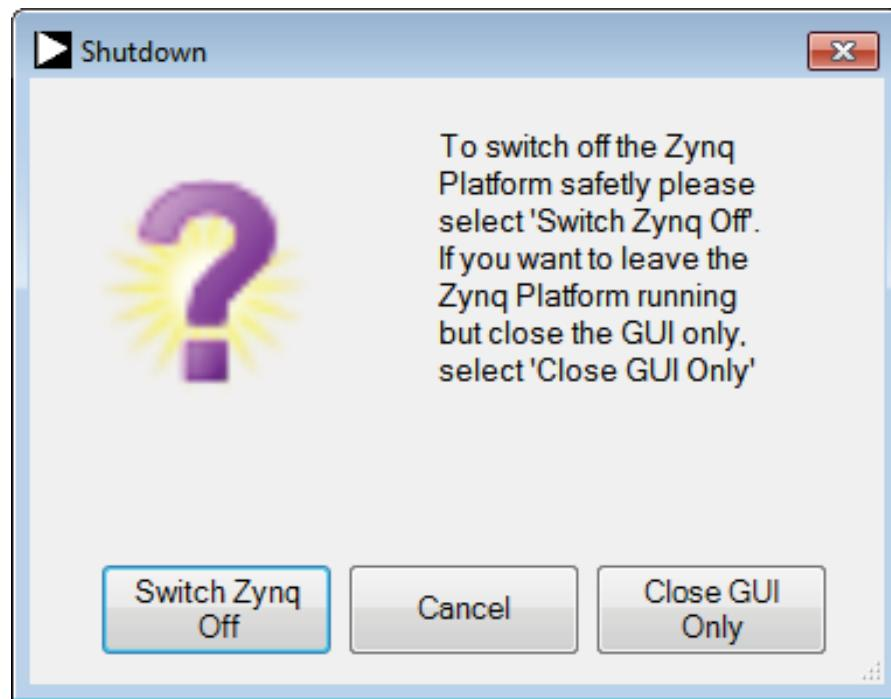

Figure 51. **AD9375 SCES Shutdown Window**
- **Exit** opens the **Shutdown** window, as shown in Figure 51. In this window, the user can select from the following options: